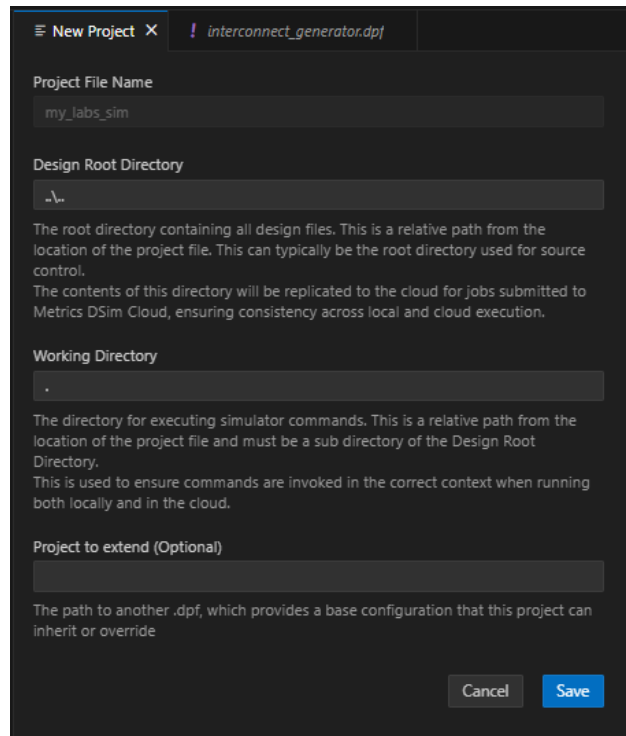

Figure 7. Configuring the project.
8. Configure your new project as is shown in figure 7, with project name as **my_labs_sim** and save it. This will generate the file **my_labs_sim.dpf** in the main directory.